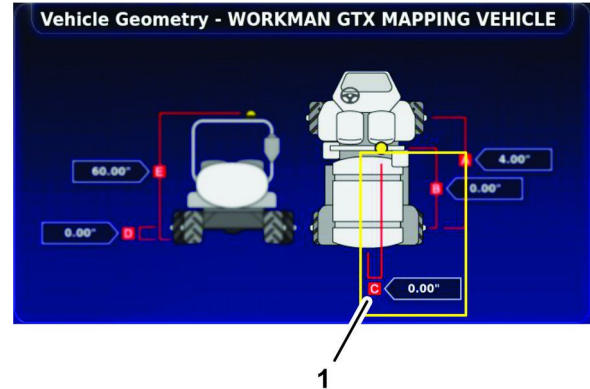

Figure 182
1. Machine centerline and satellite receiver center measurement (C)
3. Measure the distance between the centerline of the machine and the center of the satellite receiver (Figure 182), and record your measurement in the geometry form.